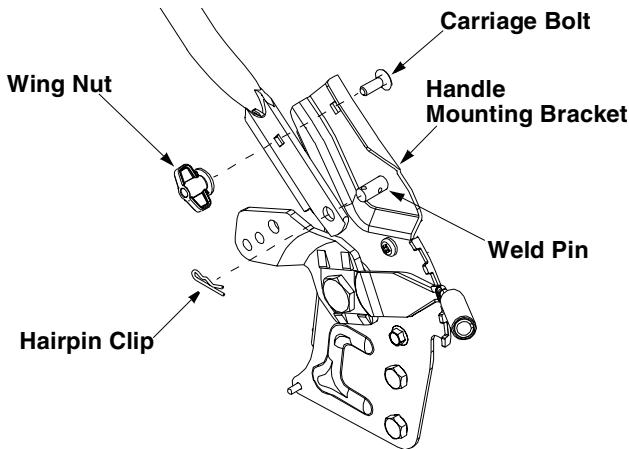

Figure 5
- Remove hairpin clip from the outer hole of the weld pin on each handle brackets. Using a pair of pliers, squeeze one leg of the lower handle against the handle bracket. Insert the hairpin clip into the inner hole on the weld pin. Repeat on the other side. See Figure 5.
- After moving the hairpin clip, insert the carriage bolt, from Group A of the hardware pack, in the upper hole on the handle mounting bracket and secure with plastic wing nut from the hardware pack. See Figure 5. Repeat on the other side.